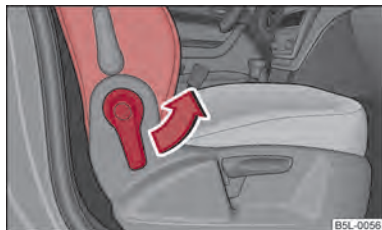

Fig. 43 Folding seat backrest of the front passenger seat
- Pull the lever in the direction of arrow ⇒ fig. 43 and fold the seat backrest forward until the until the lock is heard to engage.